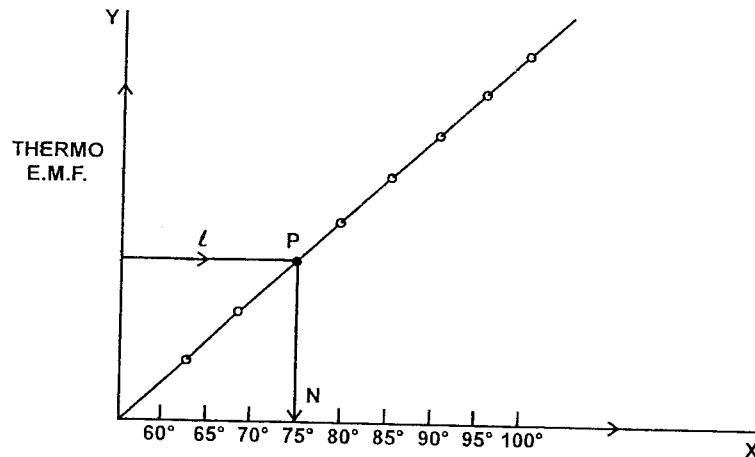

FIG. 4
7. Plot a curve between temperature (along X-axis) corresponding to thermo e.m.f. developed at various temperature (along the X-axis). It should be straight line. This is illustrated in Fig. 4